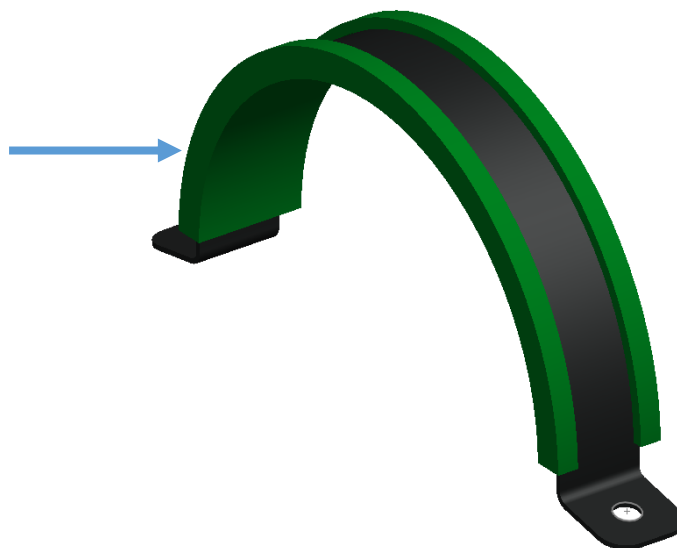

Figure 8 - JK-202 Air Tank Strap with Rubber Trim
9.3.5. Attach hardware #25 to both JK-202, as shown in Figure 8 below.